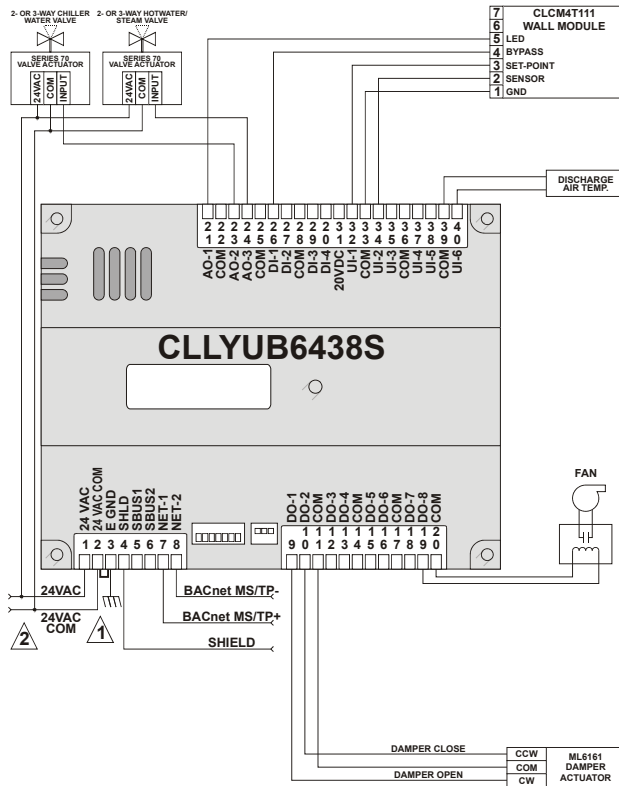

Fig. 18. Controller wiring diagram (CLLYUB6438S shown) with 4...20 mA heating, cooling, and ML6161 damper actuator
- Typical controller wiring for 4...20 mA heating, cooling, and model ML6161 floating motor control (see Fig. 18).